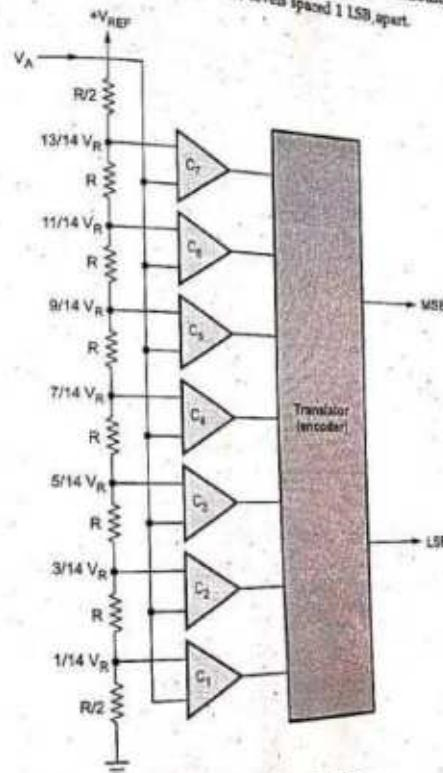

Fig. 6.8.5 3-bit flash converter
- Fig. 6.8.5 shows 3-bit flash A/D converter. For this ADC, seven ( $2^3 - 1$ ) comparators are required. As shown in the Fig. 6.8.5, one input of each comparator is connected to the input signal and other input to the reference voltage level generated by the reference voltage divider. The reference voltage ( $V_{REF}$ ) is equal to the full scale input signal voltage. The manner in which the flash A/D converter performs a quantization is relatively simple.